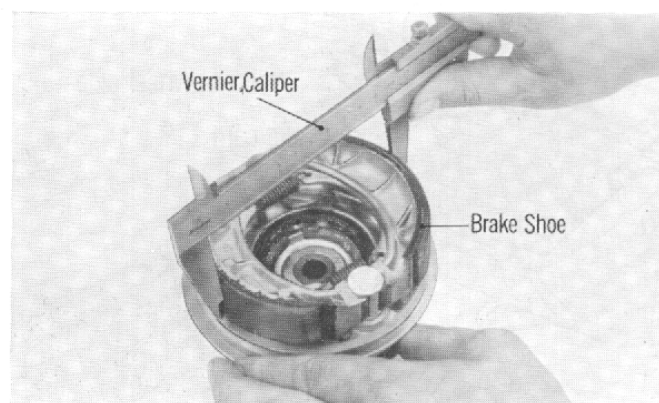

Fig. 78
- (2) Check brake shoe outside diameter. (Fig. 78)